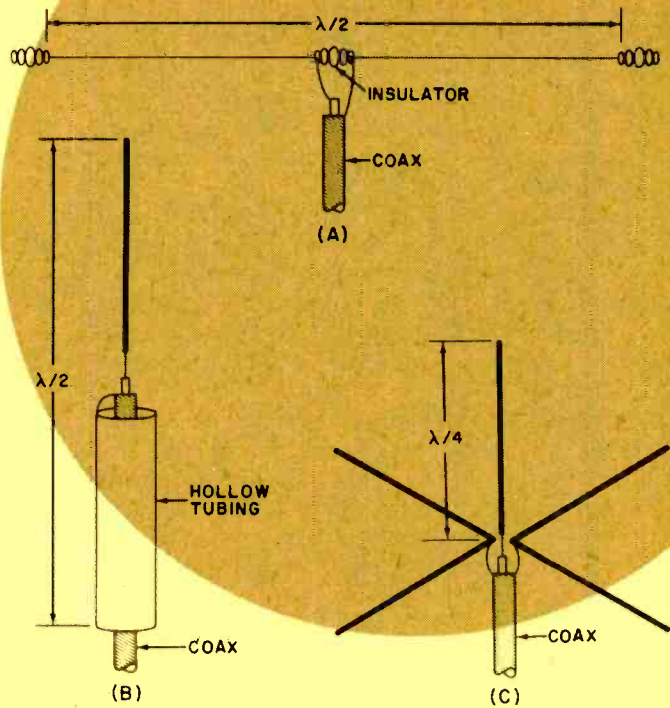

Fig. 4. Three simple antennas: (A) horizontal dipole; (B) vertical (coaxial) dipole; (C) ground plane.
Simple Antennas. The two basic antennas that are used in communications are the *dipole* and *ground plane*. Dipoles are formed by splitting a piece of wire one-half wavelength (the distance a radio wave travels in 180° of one cycle), and feeding it with a transmission line. The antenna can be installed in either the horizontal (A) or vertical (B) plane, as shown in Fig. 4. The *coaxial* dipole is often used because it is vertically polarized. One half of the dipole is a rod or wire connected to the inner conductor of the coaxial feedline. The other half is a piece of tubing tied to the outer conductor or "braid" of the coaxial line. Each element of the dipole is one-quarter wavelength ($\lambda/4$) or about 9 feet.